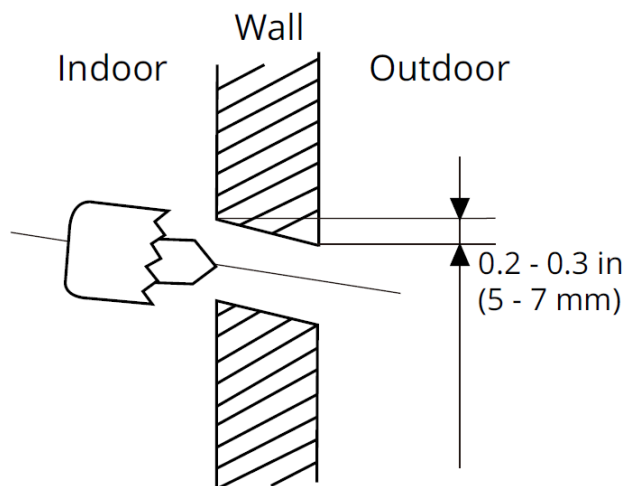

Fig. 4.2
2. Using a core drill [3.5 in (76.2 mm) for 24K & 36K units, 2.5 in (65 mm) for all others], drill a hole in the wall. Make sure that the hole is drilled at a slight downward angle, so that the outdoor end of the hole is lower than the indoor end by about 0.2 to 0.275 in (5 mm-7 mm). This will ensure proper water drainage. (See Fig. 4.2)